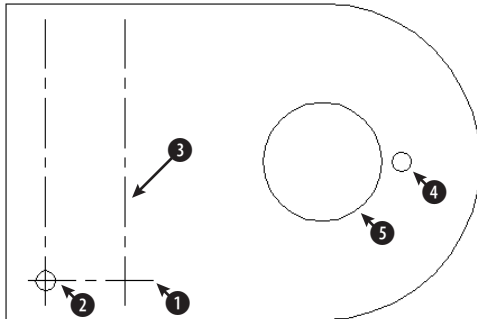

Figure 10-6: A partially completed mounting bracket
2. Save the file as `ab10-02.dwg` in your AutoCAD Bible folder. It looks like Figure 10-6. OSNAP should be on. Set center and intersection running object snaps.
4. Click the Select Objects button of the Array dialog box. In the drawing, pick the horizontal centerline **1** in Figure 10-6 and then press Enter. You return to the dialog box.
10. Click the Select Objects button in the Array dialog box. In the drawing, pick the circle **2** in Figure 10-6 and then press Enter.
12.  Click the Pick Both Offsets button. In the drawing, pick the center of circle **2** and the intersection of centerlines near **3** in Figure 10-6. (You can also pick the intersection of centerlines at the center of circle **2**. If necessary, press Tab until you get the object snap that you want.)
14. To create a six-hole bolt circle, pick the hole ④ in Figure 10-6.
17.  Next to the Center Point text boxes, click the Pick Center Point button. In the drawing, pick the center of the large circle at ⑤ in Figure 10-6.